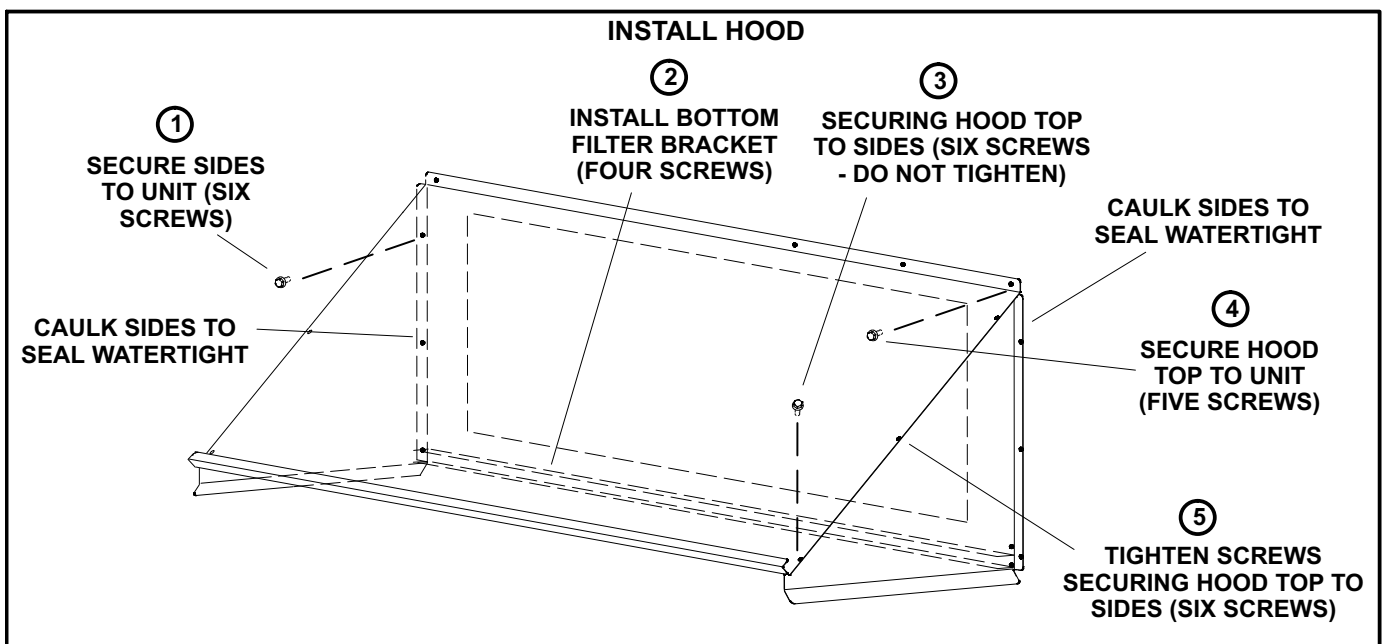

FIGURE 9
- 1- Use the locating dimples to install the right hood side onto the unit. Install the left side in the same manner. See figure 9.
- 2- Install the bottom filter bracket between the left and right hood sides. Secure in place with #10 screws. See figure 9 and 10.
- 4- Align holes in the top flange of the hood top with the locating dimples provided on the unit. Secure with #10 self-drilling screws. See figure 9.
- 10- Insert the second filter into the bottom filter bracket. Install the longer front filter bracket to support the front of filter. Secure using three screws. See figure 9 and 12.